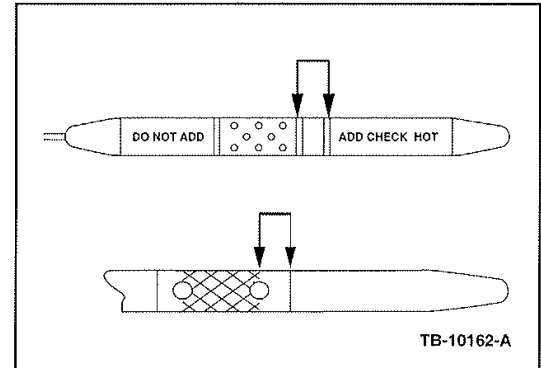

Figure 1 - Article 11-7-15
1. Transmission fluid level must be checked at operating temperature of 85 °C - 93 °C (185 °F - 200 °F), per Workshop Manual (WSM), Section 307-01. At this temperature, adjust fluid level to the flat tow area on the dipstick . This level is within the safe operating fluid level and does not require the customer to have the fluid level readjusted after flat tow operation. (Figure 1)
If setting the fluid level for a customer that will be recreational flat towing the vehicle, set the level between minimum line and the minimum hole at the bottom of the hash marks on a blade type dipstick or in the Flat Tow area below the hash marks of the bullet-on-a-wire type dipstick per WSM, Section 307-01. (Figure 1)